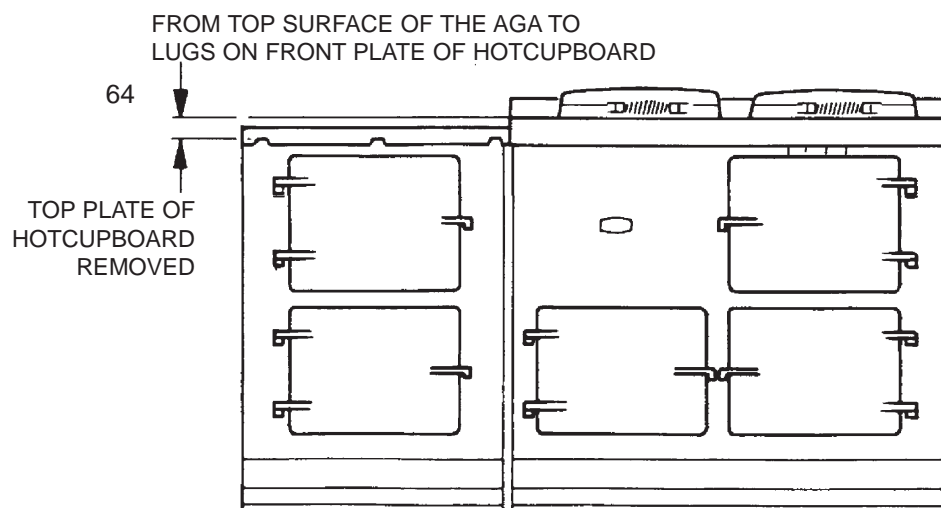

Fig. 9
10. Levelling of the simmering plate on the main Aga cooker can be carried out with its top plate in position and verified across the hotcupboard (See Fig. 9).